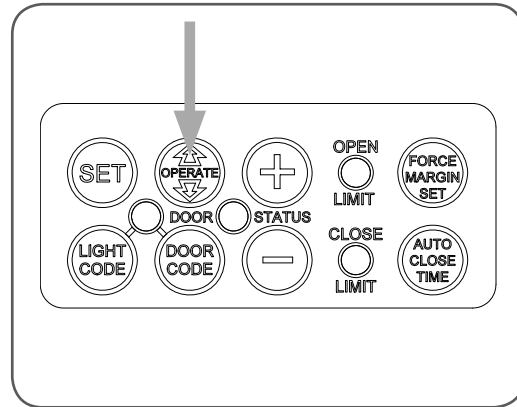

fig 27
- Press the OPERATE button to open the door (**Fig. 27**).